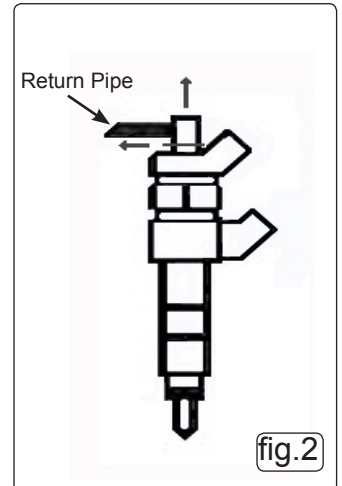

fig.2
- 3.2.1. The return pipes are retained by wire clips, remove the clips and store in a safe place. Gently ease out each of the return pipes from the injectors (fig.2). Take care not to break the connectors as they can be brittle.